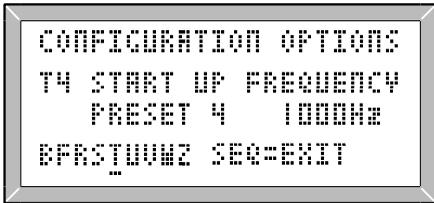

Fig. 1.4 LA101 Configuration Editor
The *configuration menu* is obtained on either unit by holding **[ON/OFF]** and pressing **[2]** (Figs 1.4 & 1.5). It offers the possibility of changing many configuration parameters such as printer baud rate, printer type, print format, and default impedance. The full list is shown in table 1.6. Each configuration is given a letter (A-Z) and may be set to one of several options, each represented by a number. For example, configuration P1 indicates that the printer configuration (P) is set to Epson (1), while configuration P8 will indicate that the LA102 is configured for a HP Deskjet printer. Similarly, configuration V will determine the default loudspeaker volume in the range 0 (off) to 15 (maximum volume). The configurations in the LA101 and LA102 are completely independent although similar functions have been given the same letter wherever possible.
When the configuration options are displayed (figs. 1.4 & 1.5) the left hand pair of keys in the centre row can be used to cycle through the various configurations, and the right hand pair will change the option number (these keys repeat if held). The various options are displayed when selected. Keys **[1]** to **[5]**, and **[\*][1]** to **[\*][5]** (representing 6 to 10) can also be used to set the various options and **[L/R]** will restore the **L**indos/**R**ecommended default option. Exit the menu by resetting or pressing **[SEQ]**. The current LA102 configuration settings can be printed by pressing **[\*][PRINT]** when the configuration menu is displayed (see sections 8.1 & 8.2).